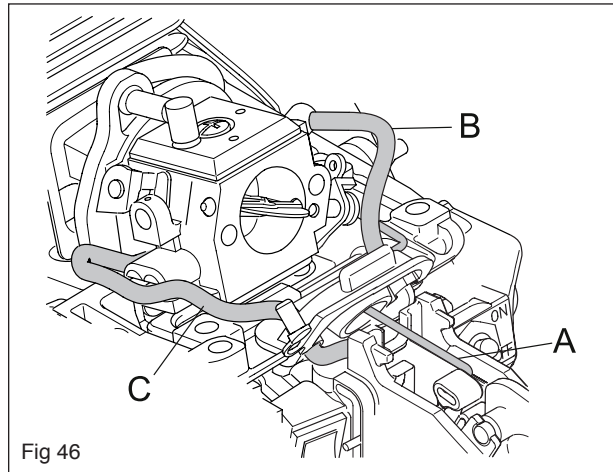

Fig 46
3. Detach hoses B and C. Detach the throttle rod A. See figure 46.
4. Fit the hoses B and C and the throttle rod A to the throttle trigger. See figure 46.